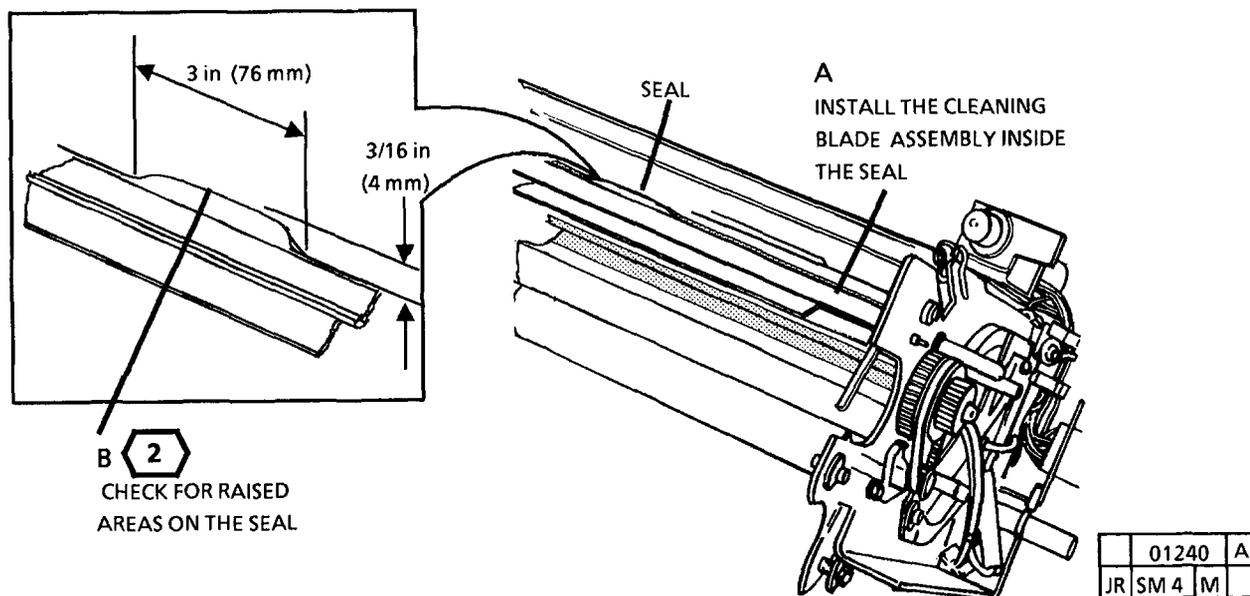

Figure 3. Check for the Proper Installation
3. (FIGURE 3): CHECK THE SEAL FOR CORRECT INSTALLATION.